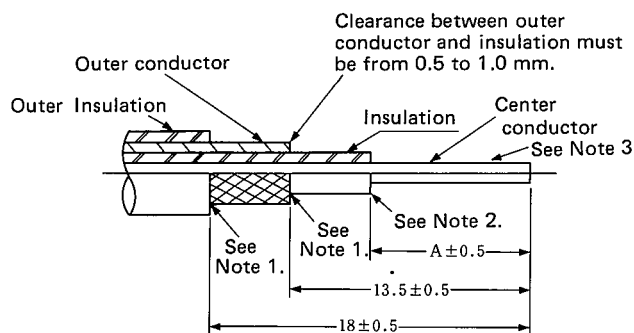

Fig. 2
- (1) Strip the outer insulation to  $18 \pm 0.5$  mm from the cable end shown in Figure 2. Cut the outer conductor of the cable to  $13.5 \pm 0.5$  mm. Cut the insulation by dimension "A" specified in the table below.
- (2) After preparing the cable per #1, wipe the center conductor with an alcohol-dampened cloth to remove any polyethylene residue from the surface of the center conductor.